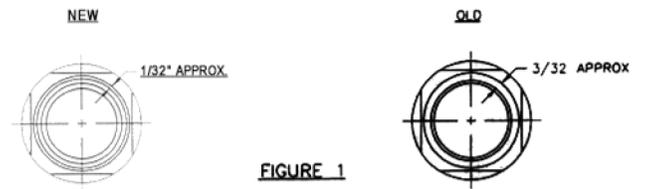

FIGURE 1
1. Insert the seal retainer assembly (item 3) through the side port into the body.
3. Grease the cavity in the base of the body (item 4) for the insert gasket (item 24) and install the gasket.
4. Grease the exterior surface of the body insert (item 9) and insert it into the body, pushing down with the heel of the palm and slowly rotating.
6. Apply grease to the Acme thread of the stem (item 2). Screw it into the bonnet (item 5) and run it up and down the full length of the thread. It should thread into the bonnet loosely. Take the stem out of the bonnet. It will be reinserted later.
7. If the packing screw is the new style (see comparisons of the old and new packing screws, Figure 1) and the white PTFE wiper is in good condition, apply a light film of grease on the inside and outside surfaces of the packing screw, and advance to step 8. If there is an old style packing screw with a black o-ring in it, obtain a new packing screw and PTFE wiper from Midland. If the packing screw is of the new larger ID design, P/N 713-81-ml, and there is an o-ring in it, use a hook tool and take out the o-ring.